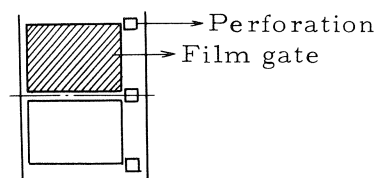

Fig. 7
The position of the perforation is adjusted as shown in the following diagram. (Fig. 7)
5. At this time, check to see that the perforation is at the position indicated in the above diagram. (Fig. 7)